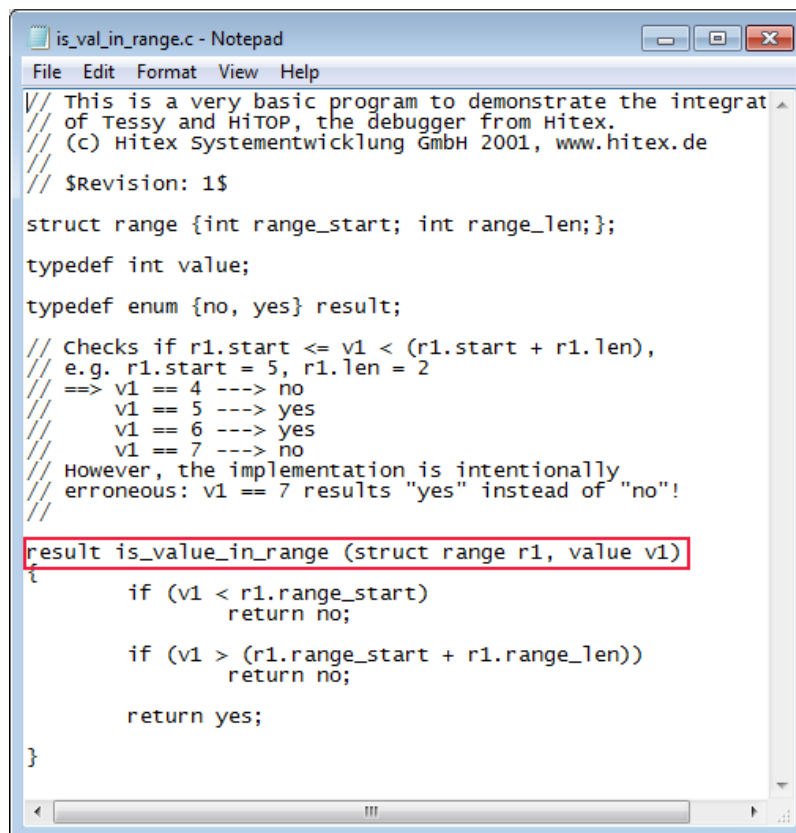

Figure 5.45: Editing the C-source file is_val_in_range.c
- Select the line “`result is_value_in_range (struct range r1; value v1)`” (see figure 5.45).